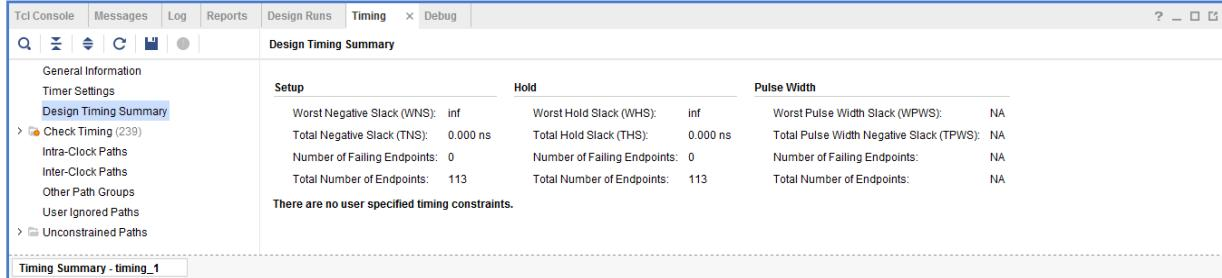

Figure 6.11: Timing Summary Report
- **Report Timing Summary:** Generate a default timing report (using estimated timing information), see Figure 6.11. Timing Reports can be generated at any point after synthesis.